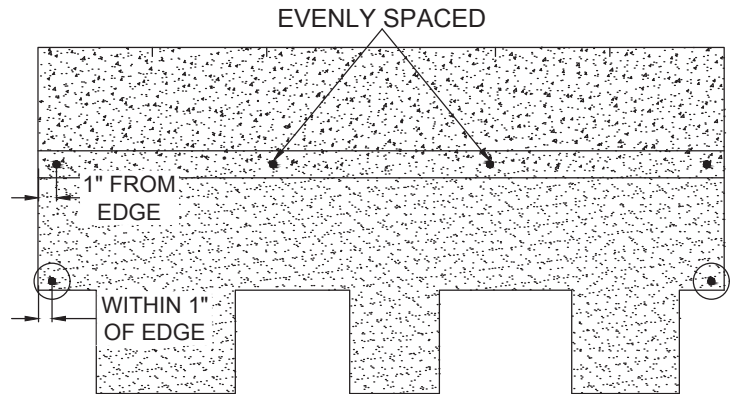

Figure 7 - 6-Nail Fastening Pattern
Place two (2) fasteners in the *low nailing area*, no more than 1" (25 mm) from each edge, and approximately $\frac{3}{4}$ " (19 mm) above the tabs, making sure they will be covered by shingle tabs in the course above them. (See Figure 7)